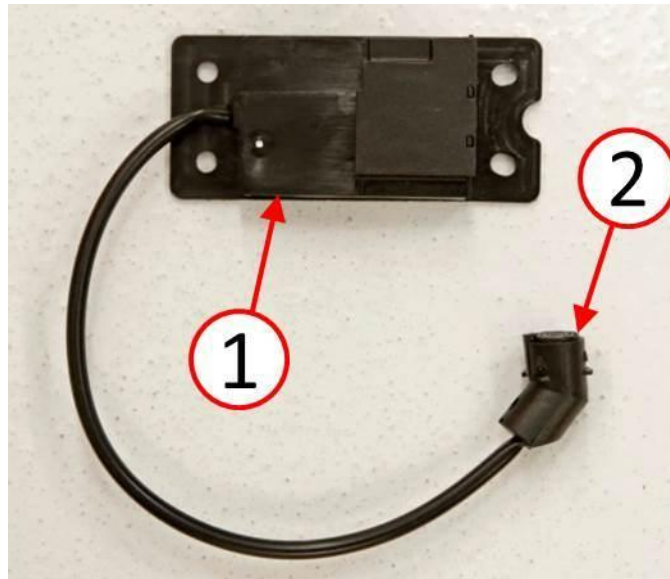

Fig. 1 Ultrasonic Sensor
1. Replace all five alarm sensor transmitters per the following procedure (Fig. 1). Two are located in the instrument panel, two in the center console, and one behind the left rear quarter interior trim panel.